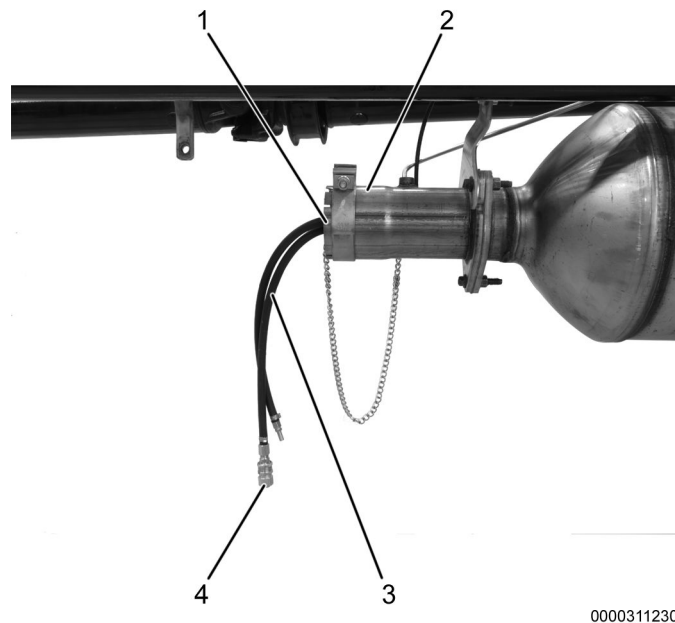

Figure 8. Powersmoke Adapter 2.9 In.
5. Install Powersmoke™ Adapter 2.9 in (Figure 8, Item 1) into end of tailpipe (Figure 8, Item 2) and inflate per Navistar® Leak Locator Operation Manual.
6. Install block-off coupler (Figure 8, Item 4) onto Navistar® Leak Locator supply line (Figure 8, Item 3).
1. Remove block-off coupler (Figure 8, Item 4) from Navistar® Leak Locator supply line (Figure 8, Item 3).
2. Deflate and remove Powersmoke™ adapter 2.9 in (Figure 8, Item 1) from end of tailpipe (Figure 8, Item 2) per Navistar® Leak Locator Operation Manual.